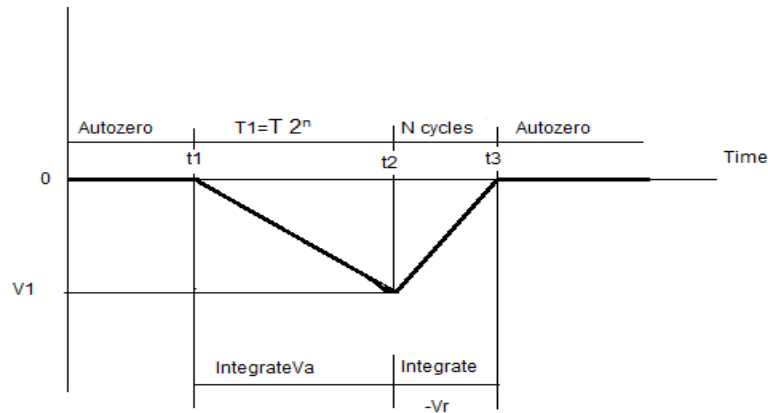

Fig 2.21(a) functional diagram of Dual slope ADC b) Integrated output waveform for the dual slope ADC
- Figure 2.21 shows the functional diagram of the dual slope or dual ramp converter. The analog part of the circuit consists of the high input impedance
- The converter first integrates the analog input signal V_a for a fixed duration of 2^n clock periods as shown in figure 2.21. Then it integrates an internal reference voltage V of opposite polarity until the integrator output is zero.
In fig 2.21